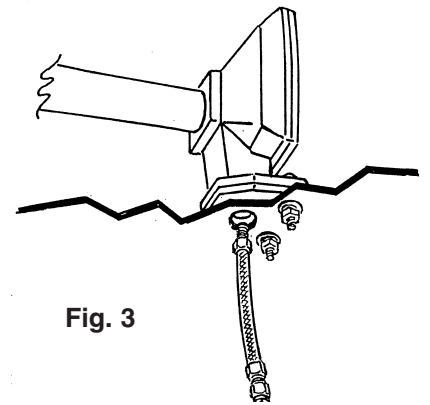

Fig. 3
3. Place the rubber-molding strip into the front trumpet support bracket. Position the bracket around the narrow part of the trumpet. Push the bracket forward until it is tight. Use the bracket as a template, mark hole locations and drill to size. See fig. 3.